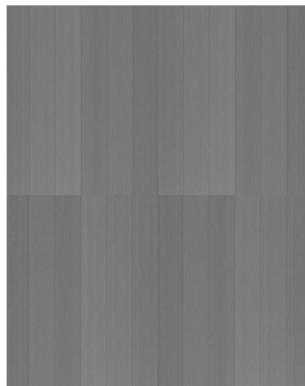

Figure 4: Dark image.
9. Ensure that the **Auto-contrast** check box is ticked. Click on **Normal** then click **Snap** again. A blank image similar to Figure 4 should be visible. This is a high-contrast image which shows different sections of the panel as grey vertical rectangles.